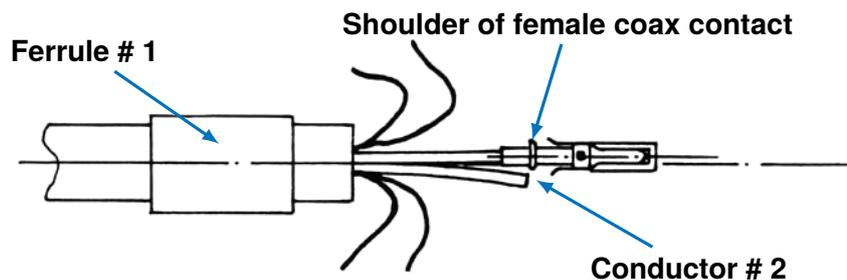

Figure 7: Conductor # 2 cut to length (flush with contact shoulder)
- Cut the the conductor # 2 at the level of the shoulder of the female coaxial contact. (Figure 7)